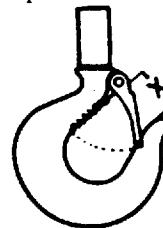

FIGURE 1. HOOK REPLACEMENT
- 2) Check hooks for deformation, cracks, or chemical damage. Hooks having more than 1-inch throat opening (See Figure 1) should be replaced.